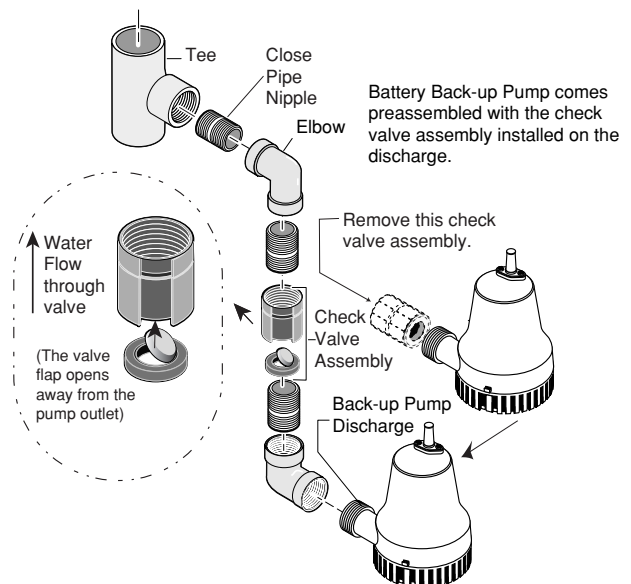

Figure 5 - Remove the pre-assembled check valve
2. Remove the check valve assembly (Key No. 4 on Page 15) from the battery back-up pump (Key No. 5) discharge and set it aside. See Figure 5. The check valve assembly will be used later, during assembly.